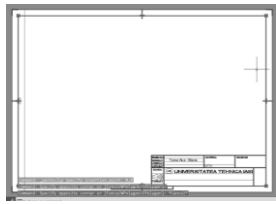

Figure 9 Layout 1 with A3 Format
- **Step 3:** Before bringing the views of the object to the Layout, one has to apply the A3 Format to the page, which is going to make the page complete and ready to print, afterwards (Figure 9).